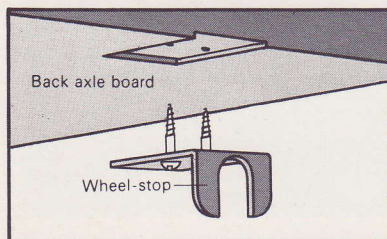

Fig. 2. Wheel-stop let into side.
Cut two 1 in. lengths of $1\frac{1}{4}$ in. angle-iron to make wheel-stops (9). Cut one face of each angle down to $\frac{3}{4}$ in. and file $\frac{3}{8}$ in. wide slot in centre (fig. 2). Drill uncut face to take screws. Let wheel-stop into underside of each side, flush with outside face of side and on centre line of back axle board.